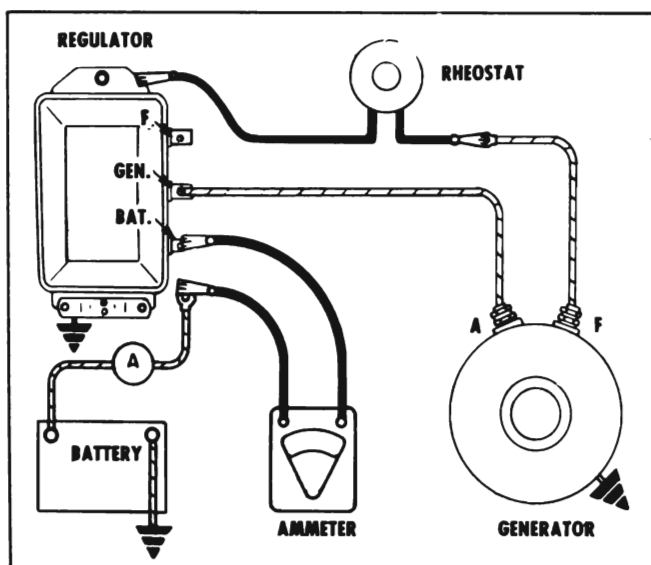

Figure 10-10—Testing Generator Output
The cutout relay has a series or current winding of a few turns of heavy wire, and a shunt or voltage winding of many turns of fine wire, both assembled on the same core. The shunt winding is connected between generator armature and ground so that generator voltage is impressed upon it at all times. The series winding is connected so that all generator output current must pass through it. It is connected to a flat steel armature which has a pair of contact points through which current passes to the battery and other electrical units. The contact points are held open by armature spring tension when the unit is not operating. See Figure 10-10.
2. Disconnect field lead from generator regulator "F" terminal and connect a jumper between this lead and ground. See Figure 10-10.
3. Disconnect battery lead from fuse at regulator "Bat" terminal. Connect test ammeter red lead to "Bat" terminal and ammeter black lead to battery lead. See Figure 10-10.